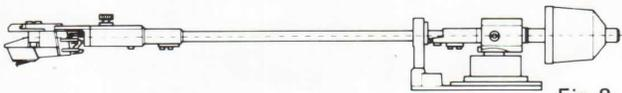

Fig. 8
- b. Carefully release the tone arm from its rest and balance the tone arm horizontally by turning the counter weight clockwise or counter-clockwise (Fig. 8).